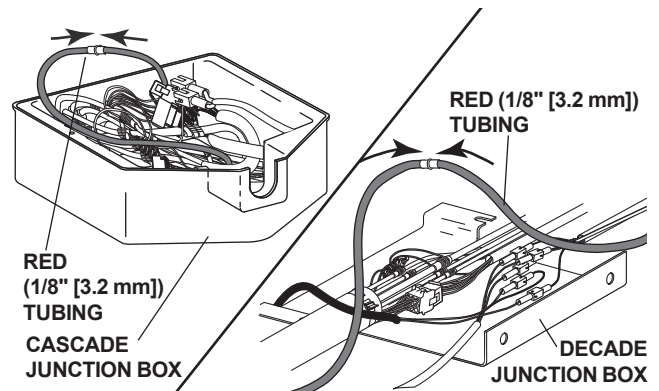

FIGURE 12
1. Connect the red tubing to red tubing already present in the junction box using an inline barb and uni-clamps (see *Figure 12*).